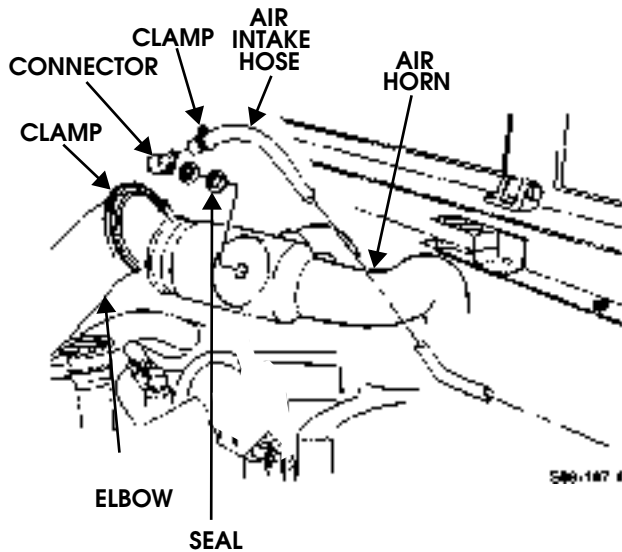

Figure 6-73: Air Intake Hose
2. Loosen hose clamp and disconnect air intake hose from connector (Figure 6-73).
2. Install seal, coupling, washer, nut, and connector to air horn (Figure 6-73).